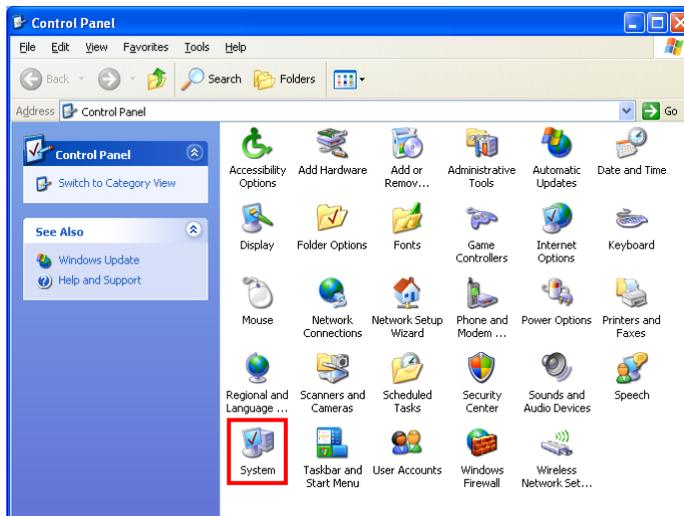

Figure 6-2: Double Click the System Icon
Step 2: Double-click the **System** icon (Figure 6-2).